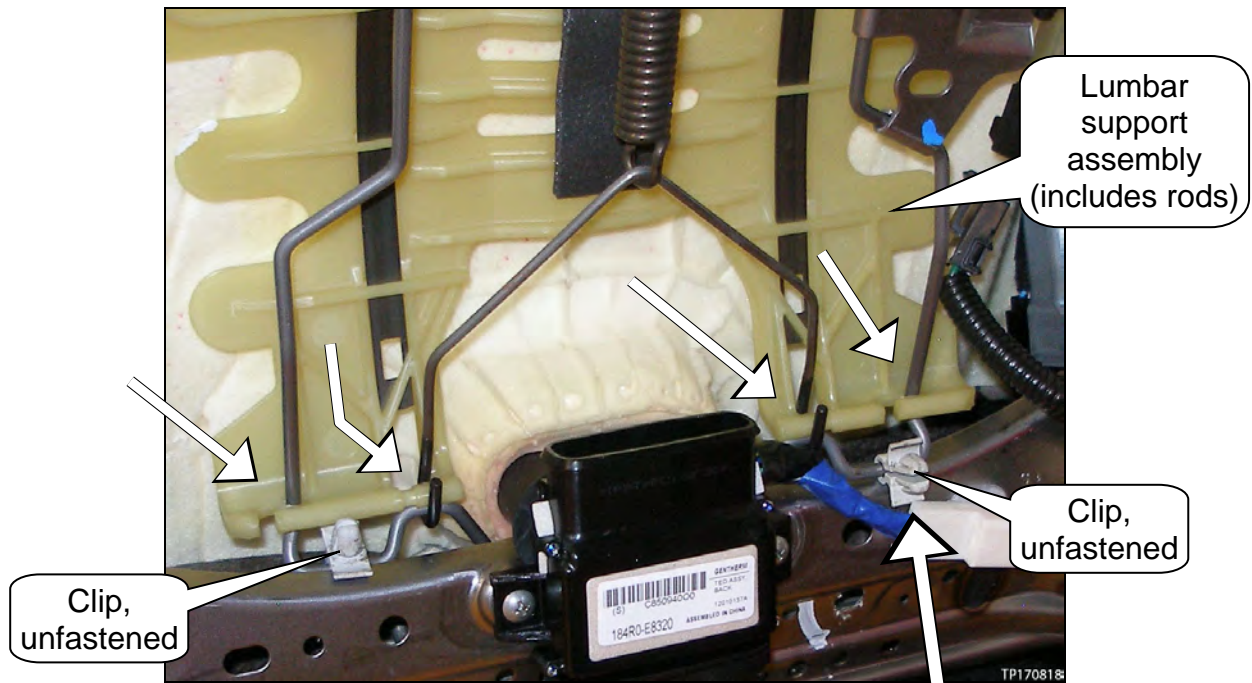
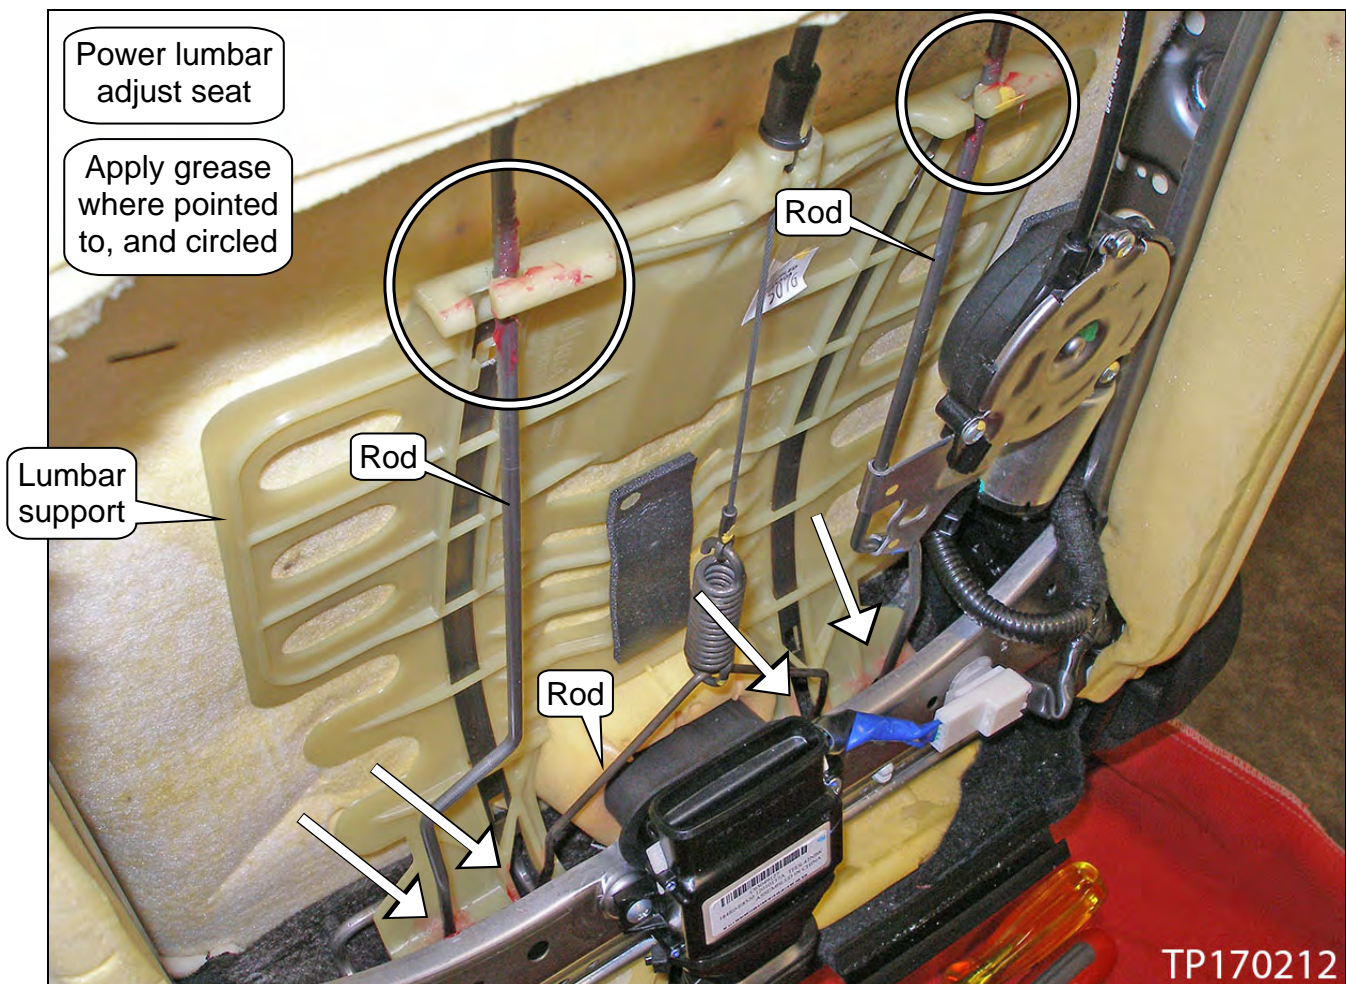
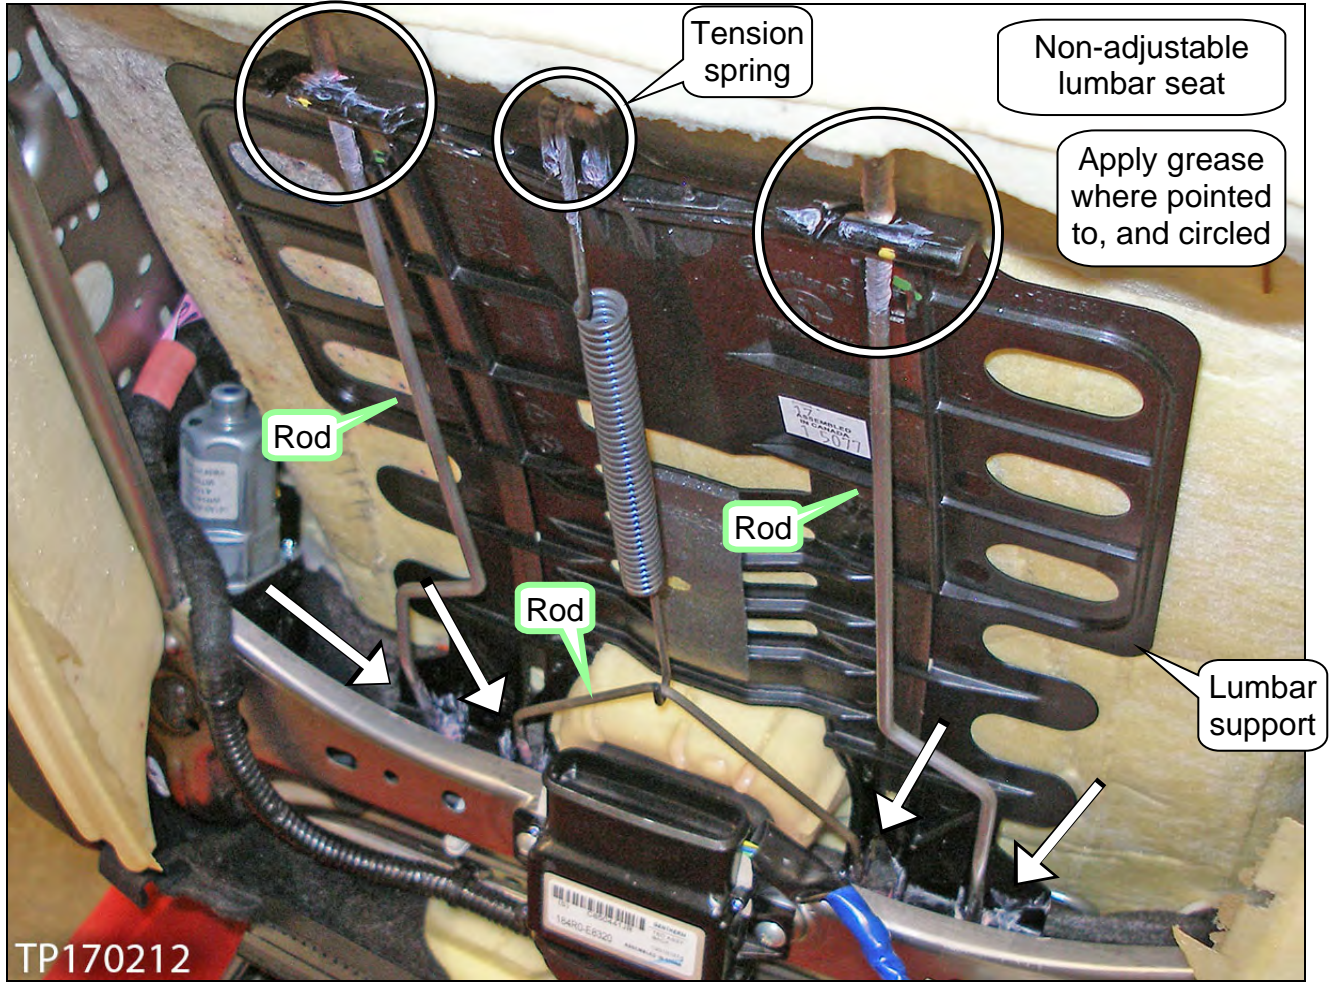

Figure 17
Figure 21
Figure 22
8. Lift the lumbar support assembly (see Figure 17 below).
**NOTE:** In steps later on in this bulletin, grease will be applied to specific areas of the lumbar support assembly. The arrows in Figure 17 show some of these areas.
9. Remove the two (2) lower clips from the rods (see Figure 17 and 18).
- See page 10 Figure 17, Figure 21 below, and page 13 Figure 22, as it applies.
- Figure 21 and 22 show a driver seat with power adjust lumbar and a non-adjustable lumbar seat, respectively. Your vehicle's seat configuration may differ slightly.
- Non-adjustable lumbar seats only: Also apply grease to the end of the return spring (see next page, Figure 22).